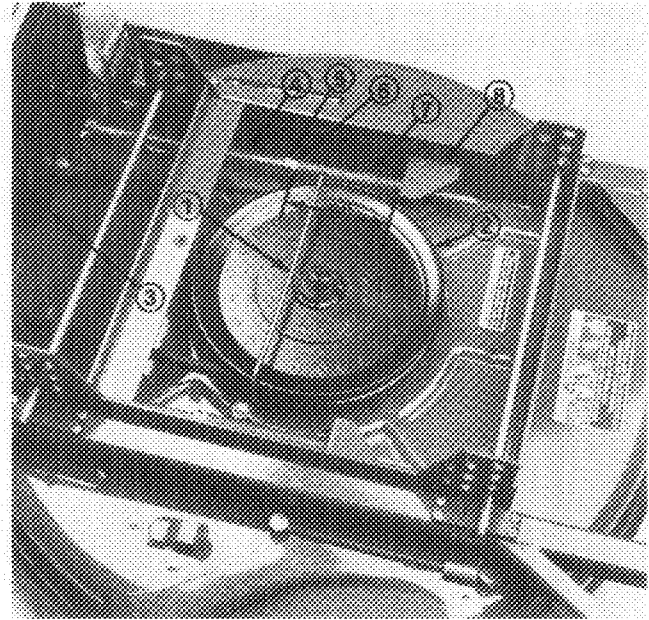

Figure 4
2. Remove (2) locknuts securing belt guide (over pulley) to mower housing (Fig. 4). Remove belt guide.
3. Route belt around deck drive pulley and engine clutch pulley (Fig. 4).
4. Thread (2) jam nuts onto each adjusting shaft (approximately 7 inches) (Fig. 4).
5. Slide a washer, spring and bushing onto each adjusting shaft. Bushing to be positioned so flange end is against spring (Fig. 4).
6. Insert spring end of each adjusting shaft into hole in deck mounting bracket and other end of shaft into hole in carrier frame mounting tab. Small end of bushing to fit into hole in deck bracket (Fig. 4).
7. To tension belt, tighten front jam nut on each adjusting shaft until springs are compressed to a length of 5", measured between washer and bushing (Fig. 4). Secure rear jam nuts.